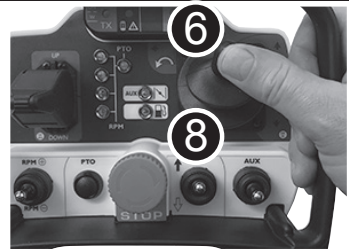

Fig 12
5.4 HOW TO DRIVE (fig.12 and 13)